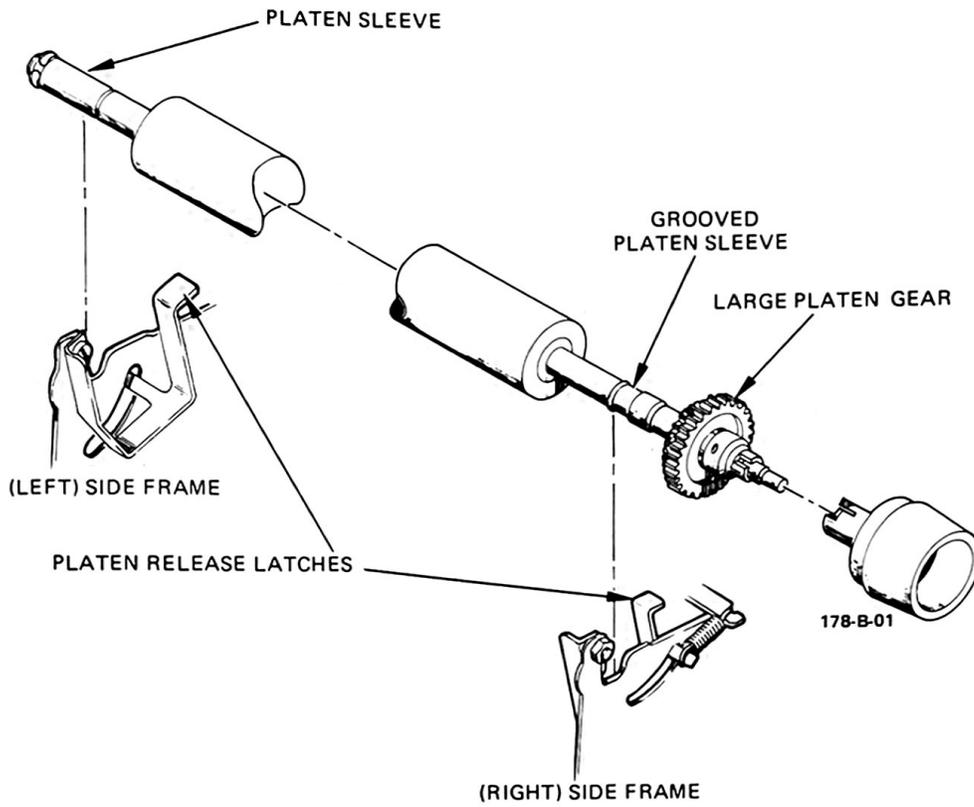

Figure 13. Platen and Side Frame Components
6. Note how the grooved platen sleeve fits into the right printer side frame (see Figure 13).